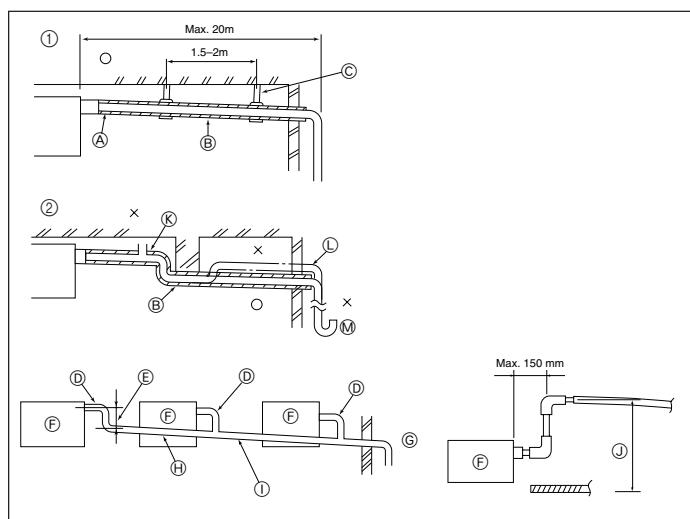

Fig. 6-1
6.1. Drainage piping work (Fig. 6-1)
① Correct piping
② Wrong piping
③ Air bleeder
④ Raised
⑤ Odor trap